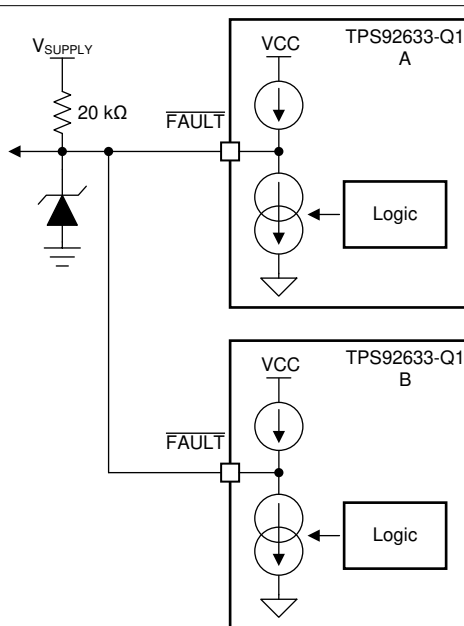
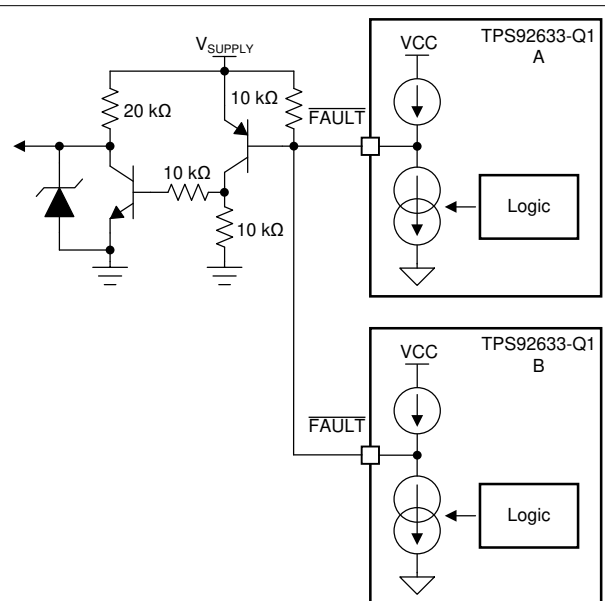

Figure 7-12. FAULT Bus For One-Fails-All-Fail Application
Figure 7-13. FAULT Bus For One-Fails-Others-On Application
Based on this feature, the TPS92633-Q1 device is able to construct a FAULT bus by tying $\overline{\text{FAULT}}$ pins from multiple TPS92633-Q1 devices to achieve one-fails-all-fail function as Figure 7-12 showing. The lower side TPS92633-Q1 (B) detects any kind of LED fault and pulls low the $\overline{\text{FAULT}}$ pin. The low voltage on $\overline{\text{FAULT}}$ pin is detected by upper side TPS92633-Q1 (A) because the $\overline{\text{FAULT}}$ pins are connected of two devices. The upper side TPS92633-Q1 (A) turns off all output current for each channel as a result. If the $\overline{\text{FAULT}}$ pins of each TPS92633-Q1 are all connected to drive the base of an external PNP transistor as illustrated in Figure 7-13, the one-fails-all-fail function is disabled and only the faulty channel is turned off.